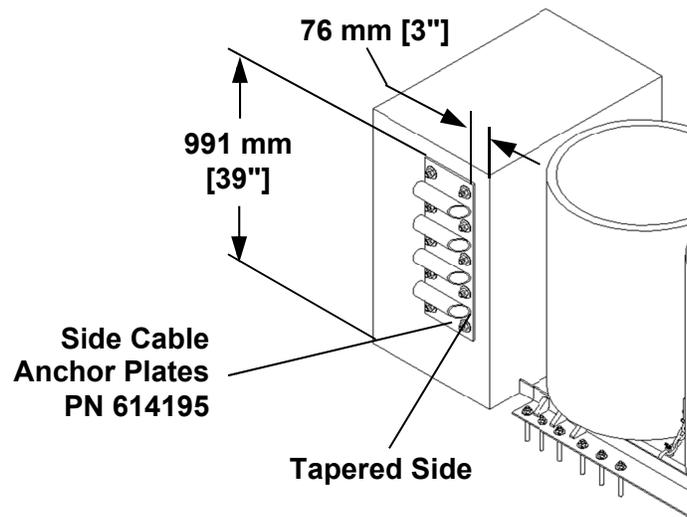

Figure 19 - Side Cable Anchor Plates
When correctly assembled, the top of the Side Cable Anchor Plates should be 991 mm (39") from the road surface. The front edge of the Side Cable Anchor Plates should be 51 mm - 102 mm [2" - 4"] from the front face of the backup to avoid reinforcing steel. The tapered tubes of the Side Cable Anchor Plates should face the front of the REACT 350® II (see Figure 19). Use the holes in the Side Cable Anchor Plates as templates to match drill ten (10) holes per side of backup, 22 mm [7/8"] diameter x 140 mm [5 1/2"] deep into the Concrete Backup. Use an approved adhesive kit to place twenty (20) 3/4" diameter x 6 1/2" long studs using instructions included with kit. After adhesive has cured, use 3/4" flat washers and nuts provided with kit to attach side cable anchor plates (one on each side) to Concrete Backup (see Figure 19).